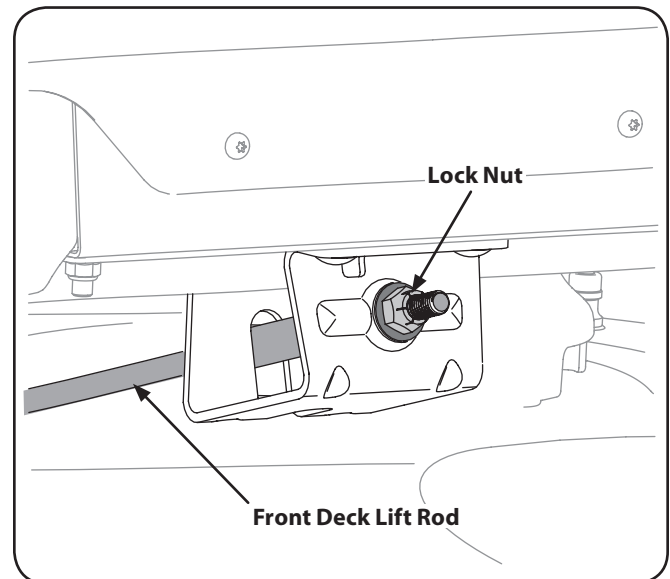

Figure 6-5
5. Using a wrench, raise or lower the front of deck by turning lock nut on the front deck lift rod. Fig. 6-5.